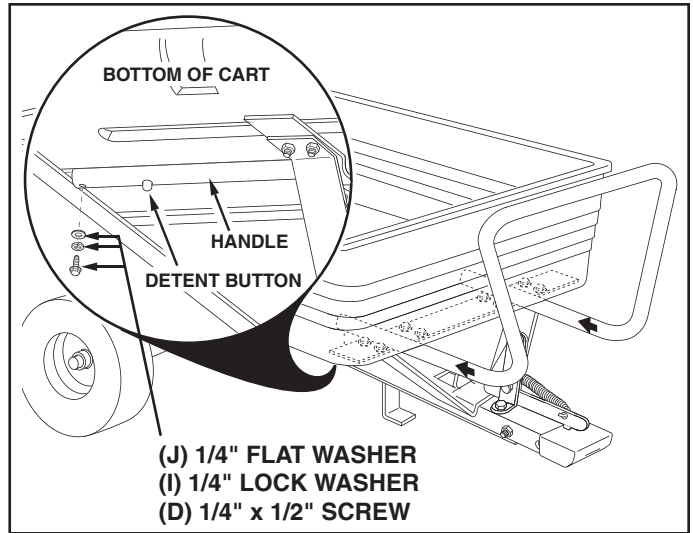

FIGURE 10
17. Slide the handle into the channels in the latch stand plate. Push the handle in all the way against the front of the tray by depressing the detent buttons in the bottom of the handle. See figure 10.
18. Assemble a 1/4" lock washer (I) and then a 1/4" flat washer (J) onto each of the two 1/4" x 1/2" screws (D). Assemble the screws (D) into the small holes at each end of the handle. See figure 10.